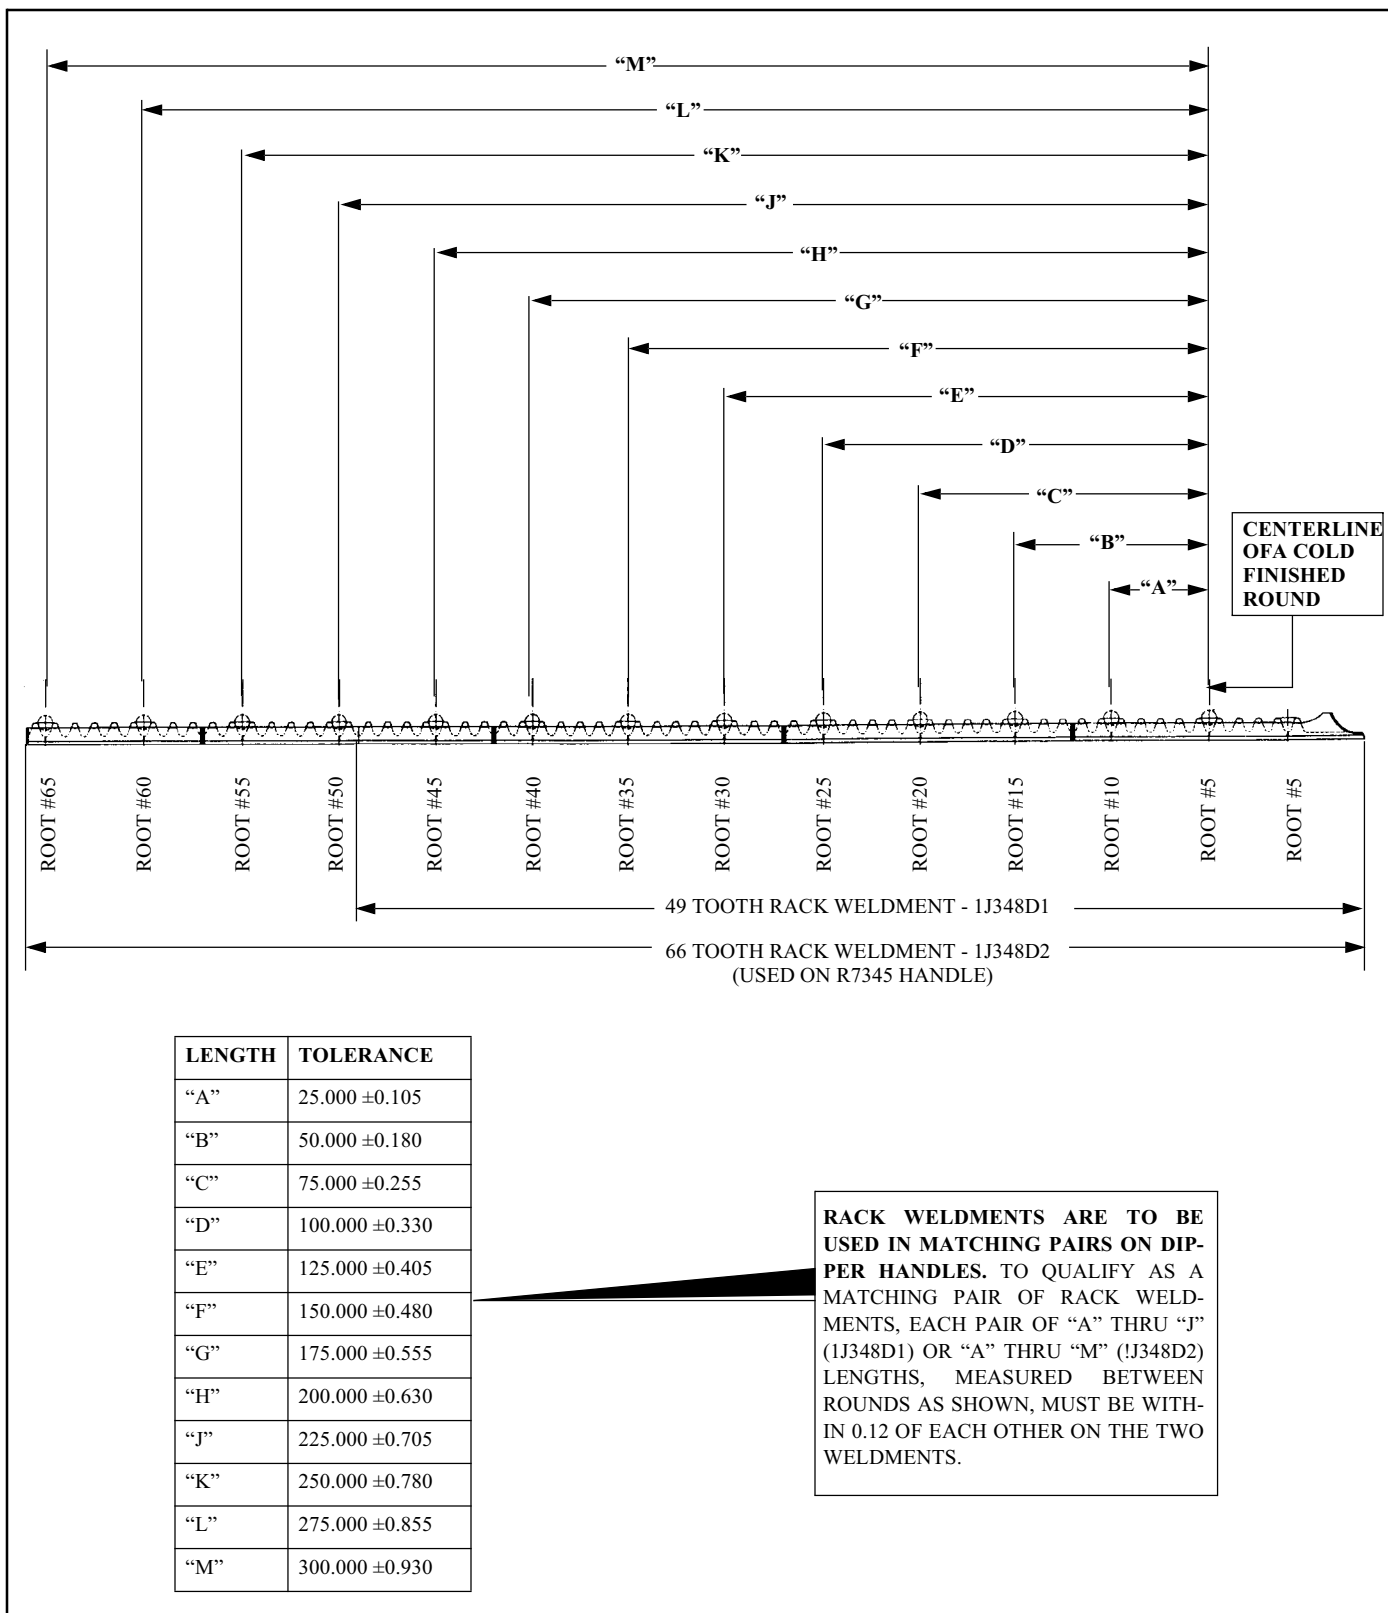

Figure 6-31. First Tooth Alignment
3. Measure the location of each tooth relative to the first tooth of the weldment as shown in Figure 6-31. Verify that the tolerances in Figure 6-31 are held. If tolerances are not held, one or more rack sections must be replaced by sections of a different length.
4. Center the replacement rack between the ends of the existing rack. To verify that it is centered, make measurements with straight edges as shown in Figure 6-31 between the points highlighted in Figure 6-55.